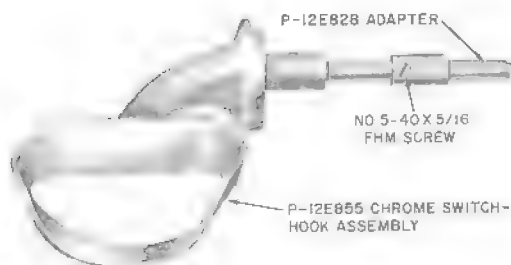

Fig. 24—Two-Piece Switchhook
- (1) Perform operations outlined in 2.32 (1).
- (2) Loosen the flathead screw which secures P-12E\$28 adapter (Fig. 24) to the switchhook shaft.
- (3) Slide switchhooks to left and out of bearing.
- (4) Slide adapter to left and out of bearing.